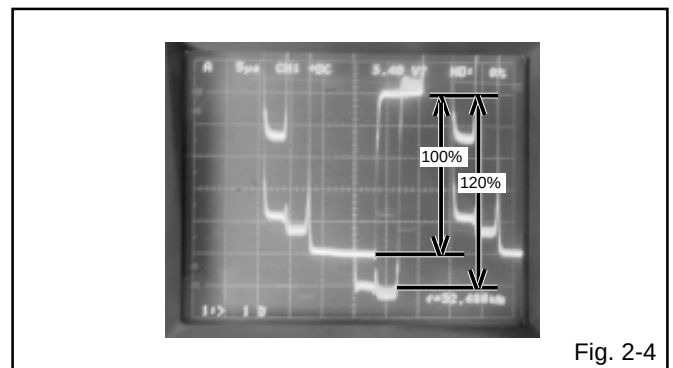

Fig. 2-4
7. Press the VOL. UP/DOWN button on the remote control until the red color level is adjusted to $120 \pm 10\%$ of the white level. **(Refer to Fig. 2-4)**